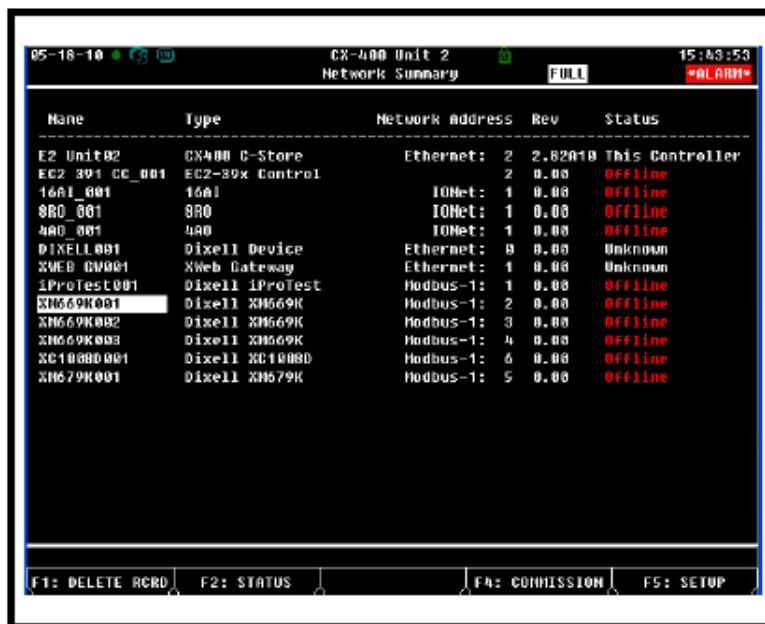

Figure 26. Network Summary Screen
8. When finished, press  to return to the *NetworkSetup* menu, then press  - **Network Summary** (Figure 26). Locate the devices you set up, and look at each device's status in the **Status** field. You will see one of the following messages: